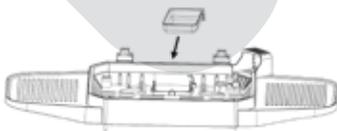

Fig. 8
8. Insert the grease collection container [17] (Fig. 8). It must be pushed into the grill housing completely. To remove, carefully push the grease collection container down a little before pulling it out.